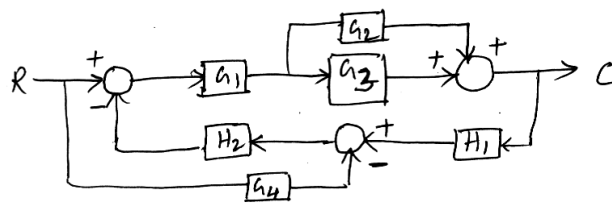

Fig Q.5(a)
- 5 a. Obtain the overall transfer function for the block diagram shown in Fig. Q.5(a) using block diagram reduction. 10